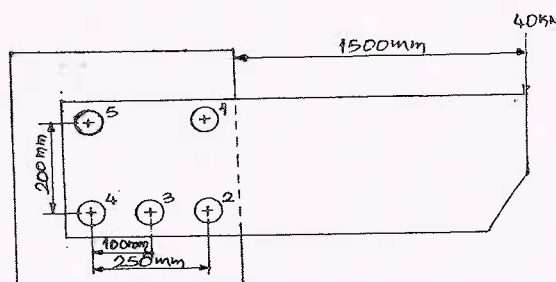

Fig.Q10(c)
c. The joint shown in Fig.Q10(c) is subjected to an eccentric load of 40 kN. The bolts are made of plain carbon steel having yield strength in tension of 400 MPa and the factor of safety is 2.5. Determine size of bolts.